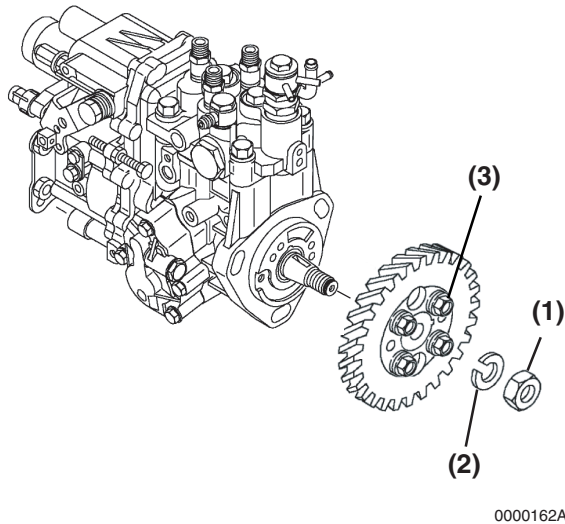

Figure 7-12
- Do not loosen or remove the four bolts (**Figure 7-12, (3)**) retaining the pump drive gear to the hub. Only remove the single drive gear nut (**Figure 7-12, (1)**) and washer (**Figure 7-12, (2)**), leaving the hub attached to the gear.
19. Hold the gear train using a large socket wrench on the crankshaft pulley nut. Loosen the fuel injection pump drive gear retaining nut (**Figure 7-12, (1)**) and turn it out to the end of the fuel injection pump shaft.